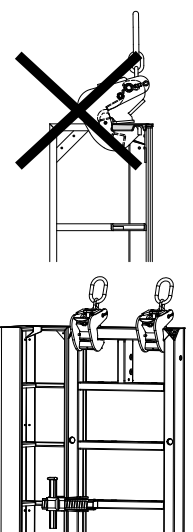

Fig. A7.03a
- Always transport TRIO Inside Corners in combination with the next panel. Attach Lifting Hook to the next panel (high profile)! (Fig. A7.03a)